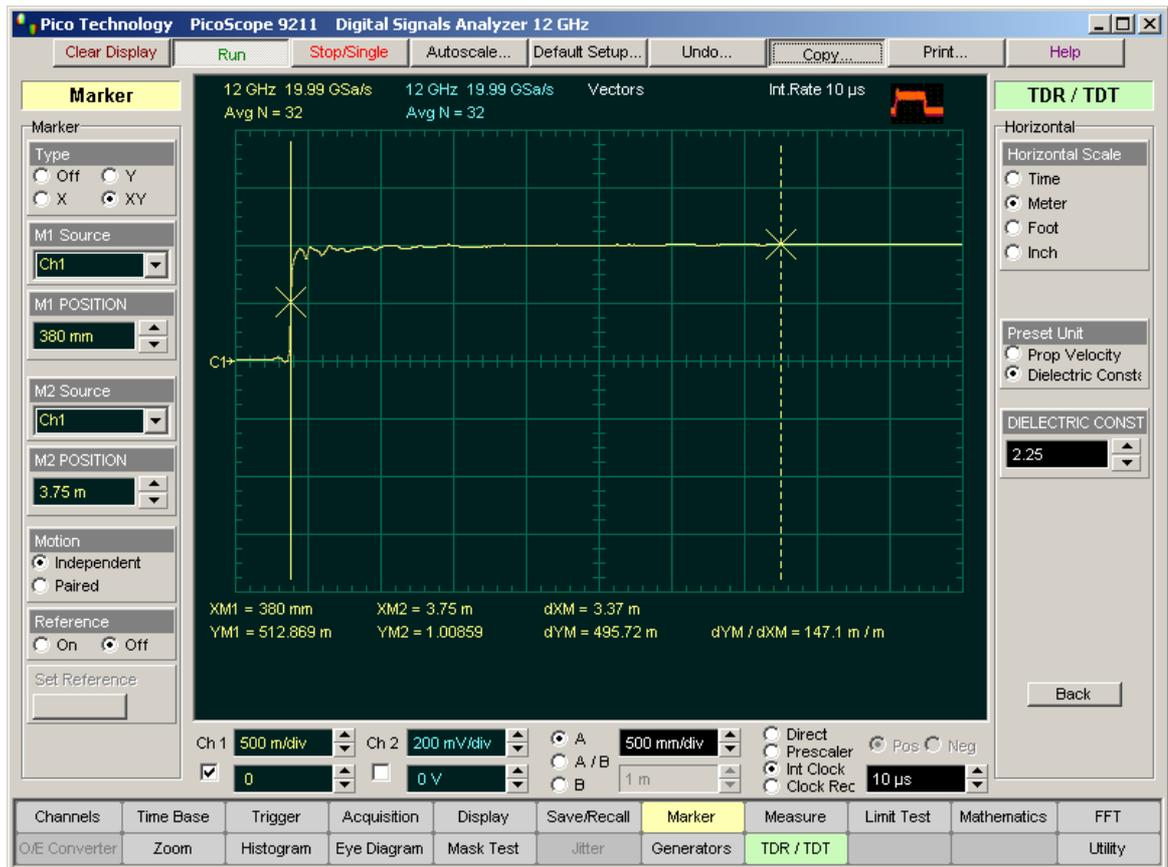

Figure 1
8. Place marker M1 on the TDT step. See Figure 1.